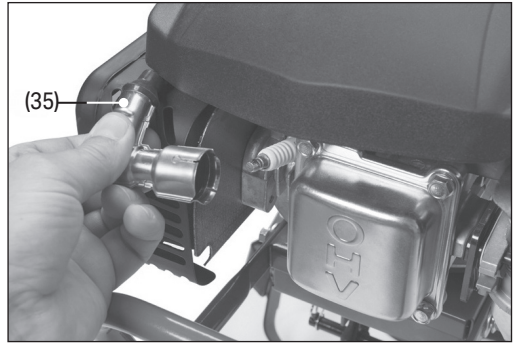

Fig. 31
1. Pull the spark plug cap (35) away from the engine to remove it (Fig. 31).